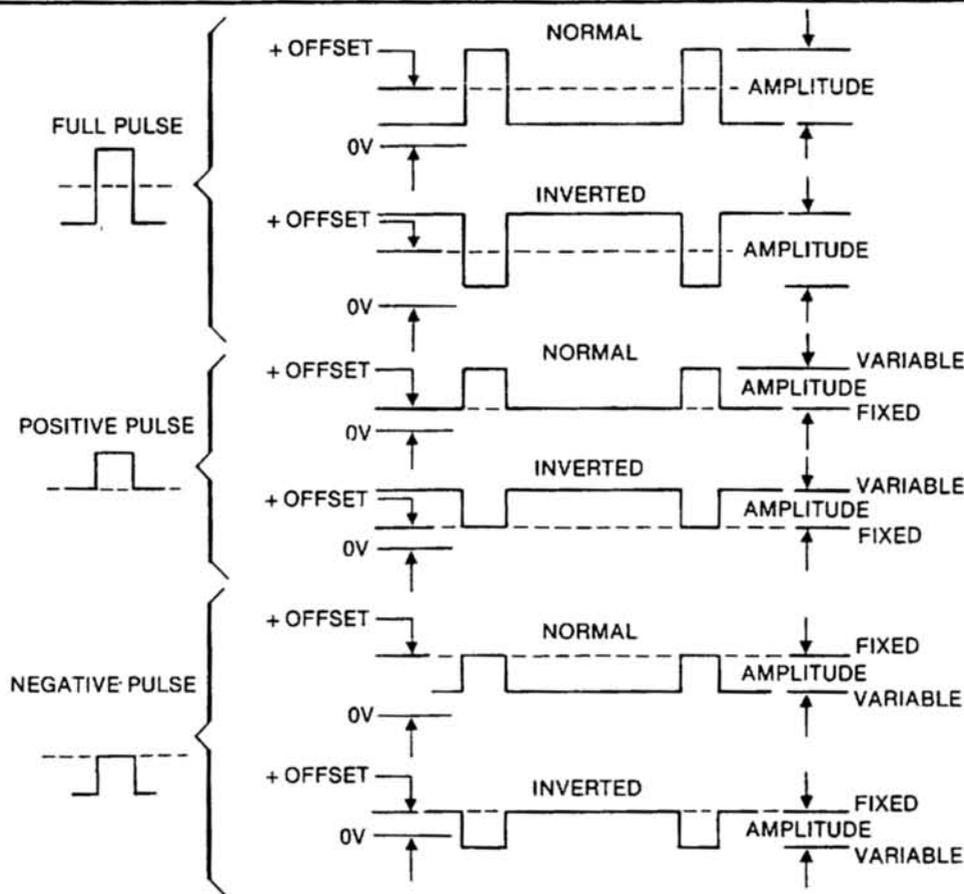

Figure 3-2. PULSE/SQUARE OUTPUT Amplitude/Offset Relationship
- 7 PULSE/SQUARE OUTPUT** — Selects the pulse amplitude symmetry relative to the baseline (ref: figure 3-2). With DC OFFSET **11** off, the baseline is 0 volts. With DC OFFSET on, the baseline is varied by the DC OFFSET control **13**.